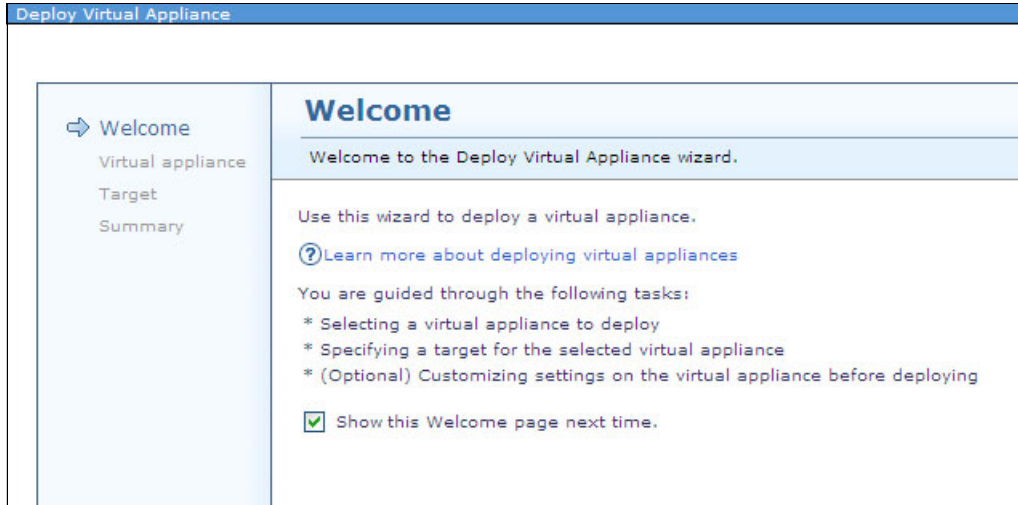

Figure 10-150 Welcome window
2. Figure 10-150 shows the Welcome window. Click **Next**.